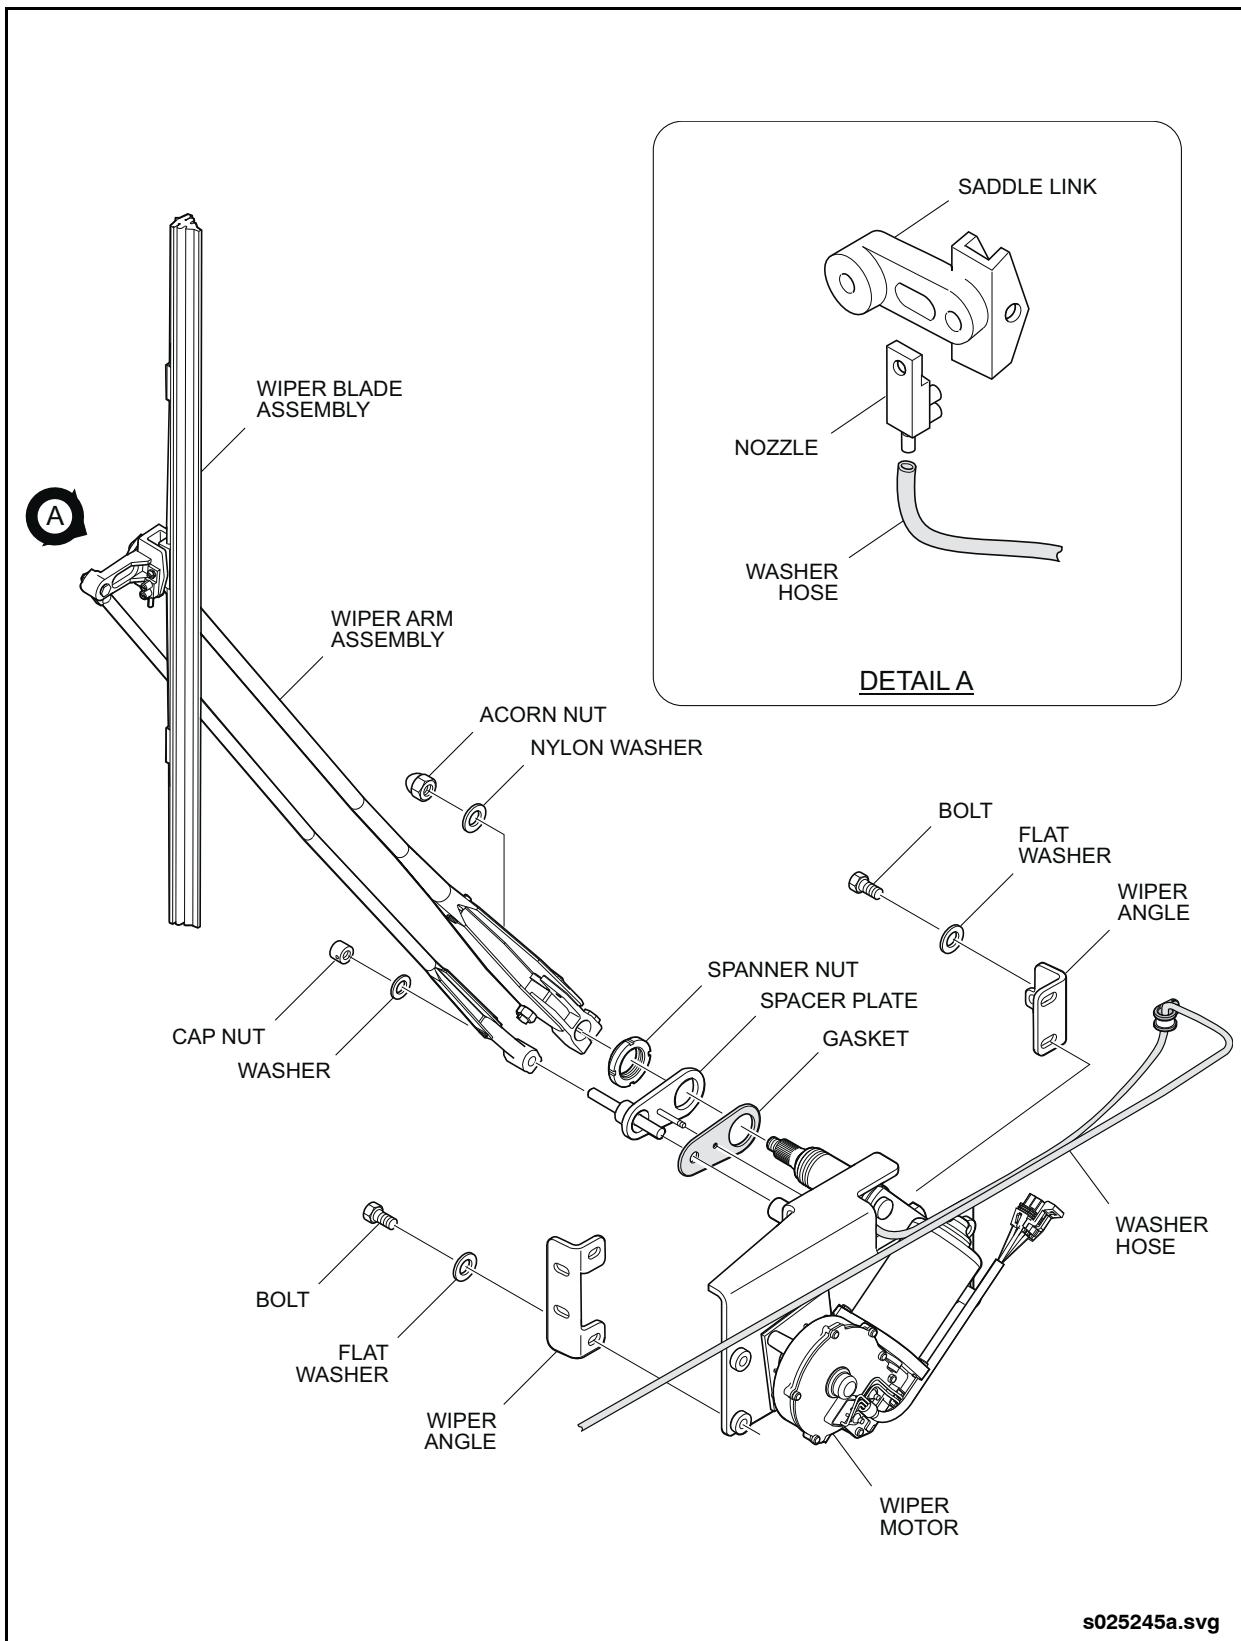

Fig. 13-15: Windshield Wiper & Motor Installation
1. Pull wiper arm away from windshield and insert nail or small pin in wiper arm hole, close to hinge point. Release arm. Arm should be held away from windshield. See "Fig. 13-15: Windshield Wiper & Motor Installation" on page 42.